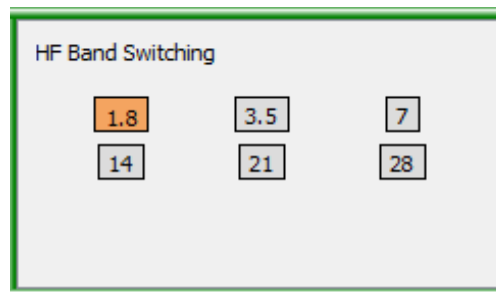

Figure 46 – HF Band Switching
3.4.1.1 Multi-band (HF) Contests
For multi-band (HF) contests the screen layout will have to be modified (see Section 3.5) to display the '**HF Band Switching**' panel (Figure 46). The orange button shows the currently active band.